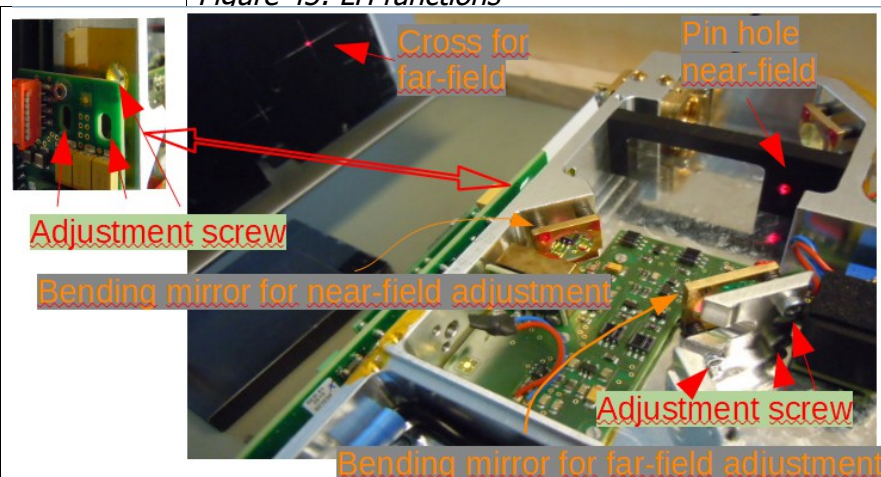
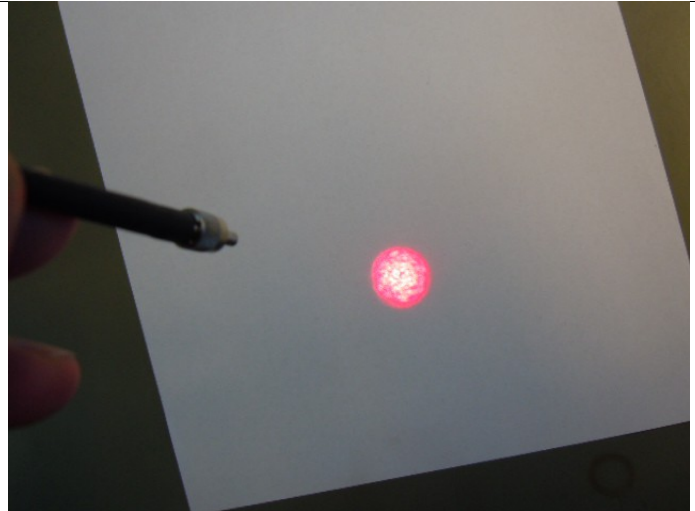

Figure 44: Aiming beam adjustment
Figure 55: Aiming beam spot
- adjust with the 3 screws (see Figure 44: Aiming beam adjustment) the mirror for the near-field, so that the aiming beam is in the middle of the pin hole for the near-field. Now ad-
- check the aiming beam at the end of the fiber (Figure 55: Aiming beam spot), if it is not round or like a donut mode, then adjust it with the bending mirror for far field (see Figure 44: Aiming beam adjustment)